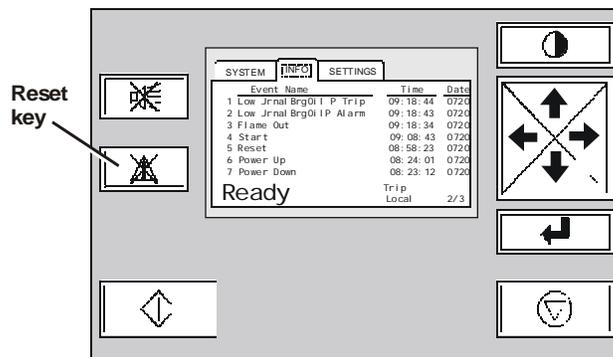

Figure 33. Reset key on control panel
- 4 Press the Reset key on the control panel (Figure 33).
- 3 Press the Reset key on the control panel (Figure 33 on page 59).